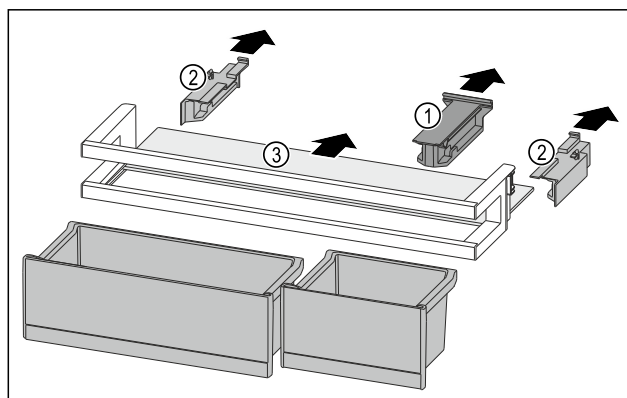

Fig. 239
- Pull off the holding part Fig. 239 (1).
- Pull off the side parts Fig. 239 (2).
- Remove the shelf Fig. 239 (3).